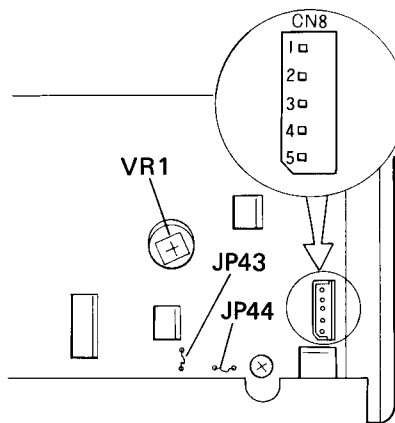

Fig. 9.3 Horizontal DD Offset Adjustment
3. Connect a DC voltmeter between the humped jumpers JP43 and JP44 (see Fig. 9.3).